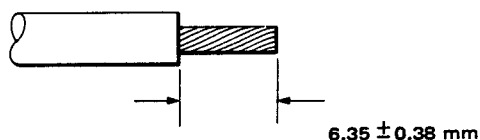

Fig. 1 Stripping dimensions
- 2 Strip the wire to the dimensions given in fig. 1. Ensure that the insulation is completely removed and that the conductor is undamaged.